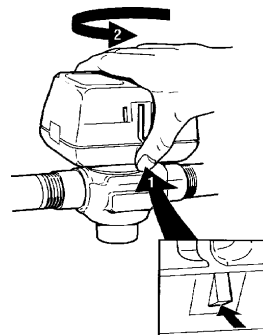

Figure 7 - Lock Mechanism to detach Actuator
- The actuator head is automatically latched to the valve. Align the coupling hole in the bottom of the actuator with the valve stem. Press the actuator down towards the body with moderate hand force and turn the actuator counter-clockwise by 1/8 turn (45 degrees) to line up the actuator with the piping. The lock will click when engaged (See Figure 7).